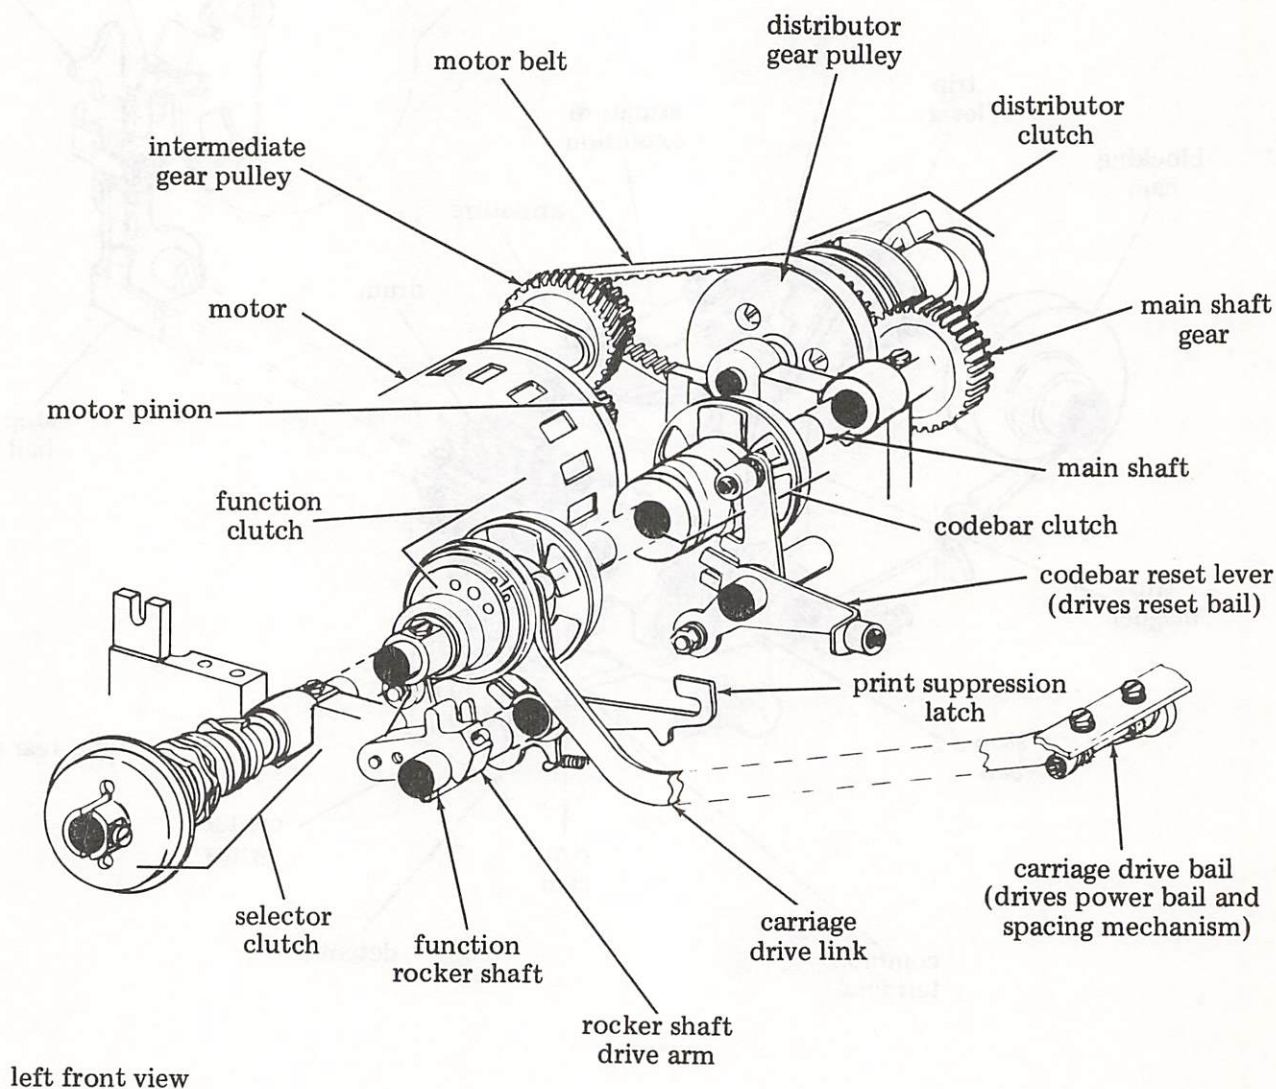
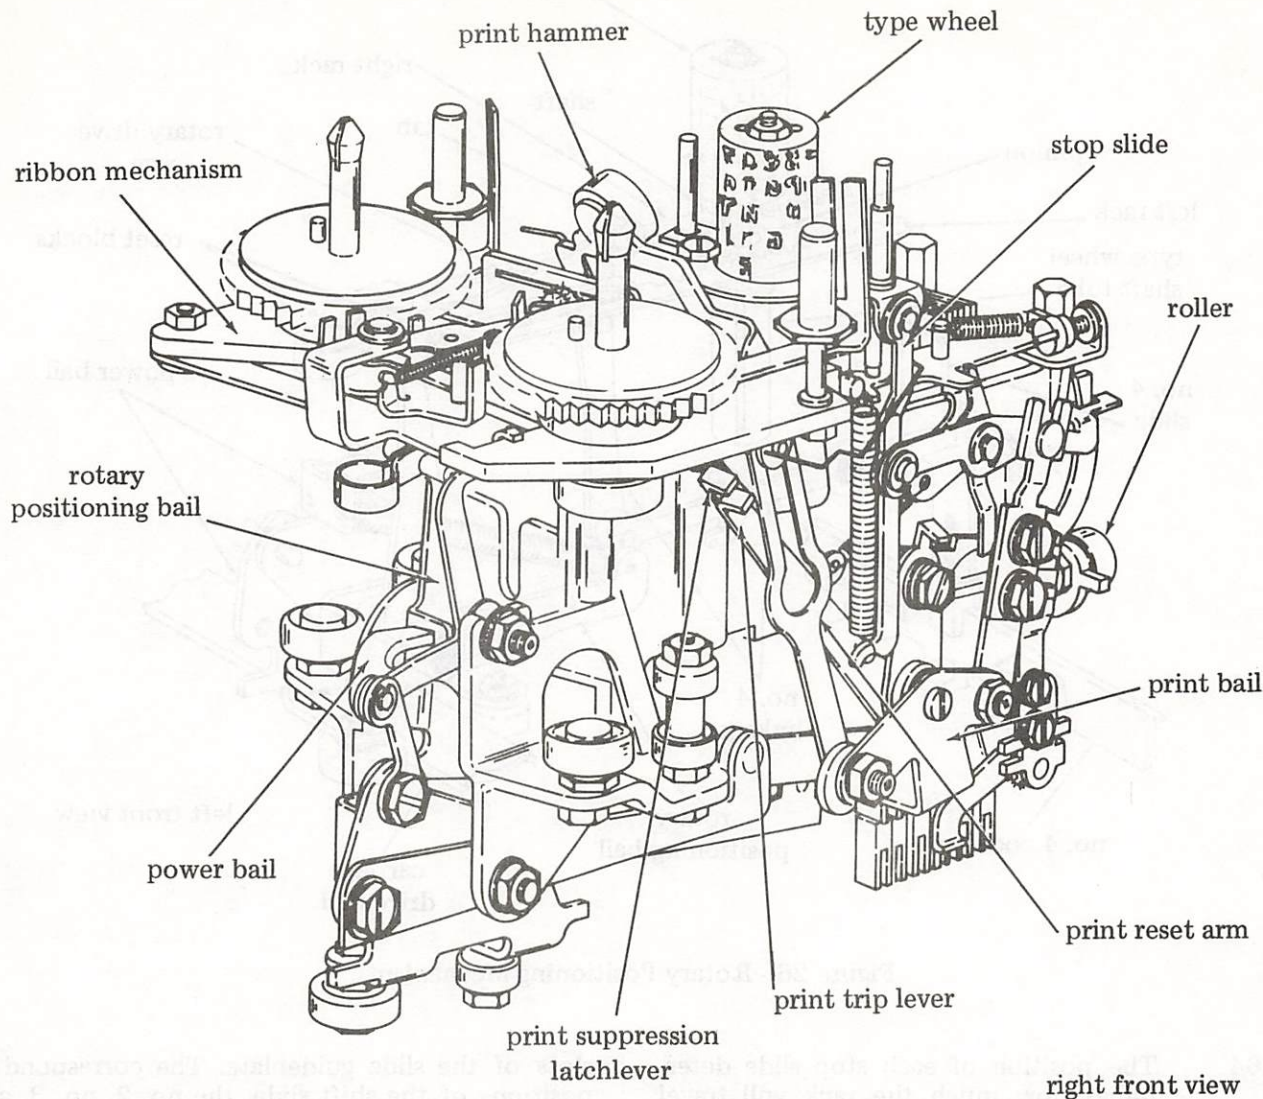

Figure 15 - Motor and Drive Mechanisms
Figure 25 - Print Carriage Mechanism
A. Motor and Intermediate Gearing (Figure 15)
4.58 As the function clutch rotates, the associated eccentric cam starts an oscillating motion through the carriage drive link to the carriage drive bail (Figure 15). The bail pivots rearward during the first part of the cycle, and frontward to its stop position during the latter part. In doing this, it causes the power bail on the carriage to pivot first clockwise (as viewed from the left), then counterclockwise. The power bail has two rollers that move along the drive bail and permit it to receive the motion regardless of the carriage position along the printing line (Figure 25).